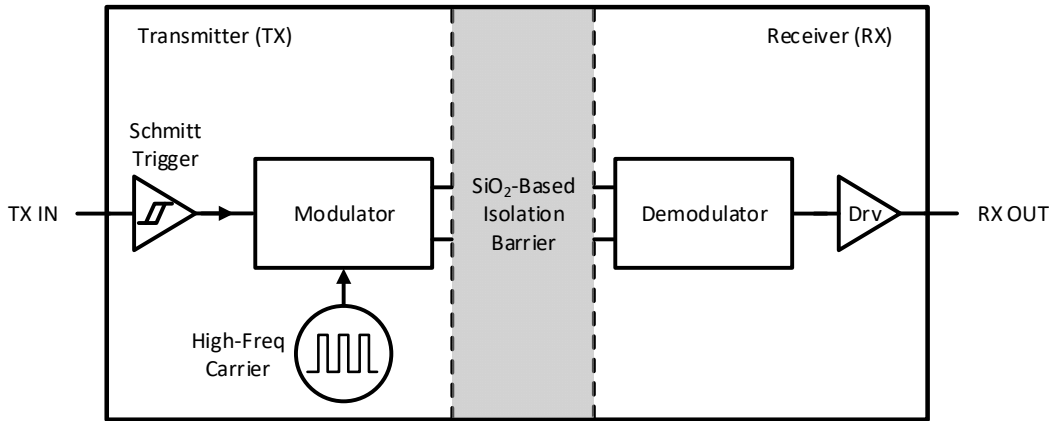
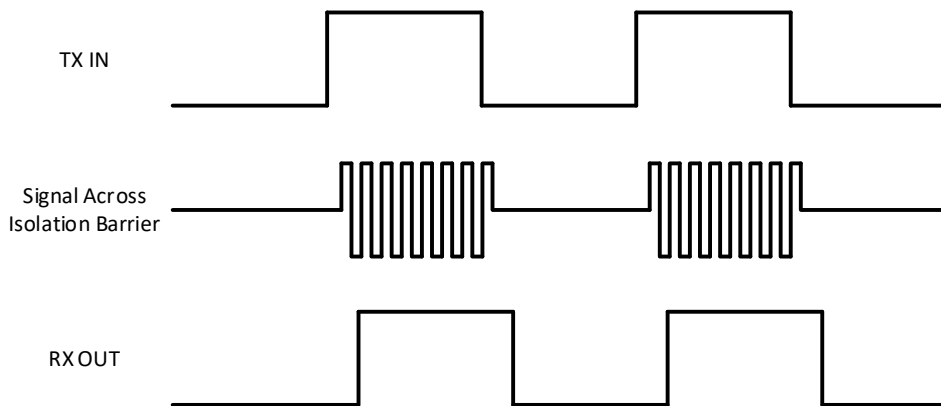

Figure 9-2 Block Diagram of an Isolation Channel
Figure 9-3 Conceptual Operation Waveforms of OOK Modulation Scheme
The CA-IS1311G-Q1 devices utilize a simple on-off keying (OOK) modulation scheme to transmit the digital bitstream across the SiO₂-based isolation barrier which supports up to 5-kV_{RMS} galvanic isolation between high- and low-voltage domain. The block diagram of an isolation channel is shown in Figure 9-2. As shown in Figure 9-3, the transmitter (TX) modulates the digital